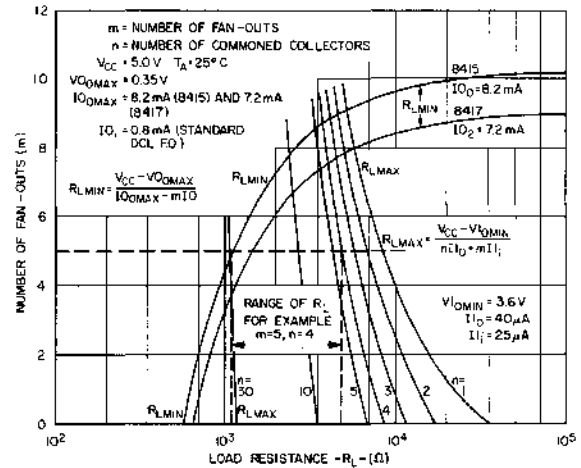

Figure 4-15 -- Allowed Values of R_L for the 8415 and 8417
3. Knowledge of the range of possible values of R_L for any combination of commoned collectors and total fan-outs (F.O.'s) is of extreme importance in any collector logic oriented system. Figures 4-15 through -17 for the bare collector gates 8415/17, the 8471/81 and the 8881, respectively, will enable the system designer to choose R_L for any combination of commoned collectors, number of fan-outs, speed and power consumption.
To use the curves in Figures 4-15 through -17, draw a horizontal line out from the vertical axis at the level of the required number of fan-outs (m). Extend the line until it intersects the $R_{L \text{ MAX}}$ line for the required number of commoned collectors (n). The line will also intersect the $R_{L \text{ MIN}}$ curve. Drop a vertical from where it intersects the $R_{L \text{ MIN}}$ curve and another from where it intersects the $R_{L \text{ MAX}}$ curve. The range of values between these verticals on the Load Resistor axis is the full range of R_L for those n and m values. (Example: for the 8415, Figure 4-15, if $m = 5$ and $n = 4$, R_L ranges from 1.1 K Ω to 4.9 K Ω .)